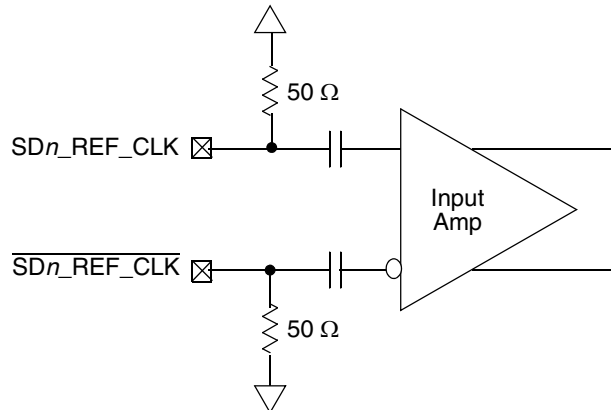

Figure 36. Receiver of SerDes reference clocks
- The SD_REF_CLK and $\overline{SD_REF_CLK}$ are internally AC-coupled differential inputs as shown in Figure 36. Each differential clock input (SD_REF_CLK or $\overline{SD_REF_CLK}$) has a 50- Ω termination to $SGND_SRDS$ followed by on-chip AC-coupling.